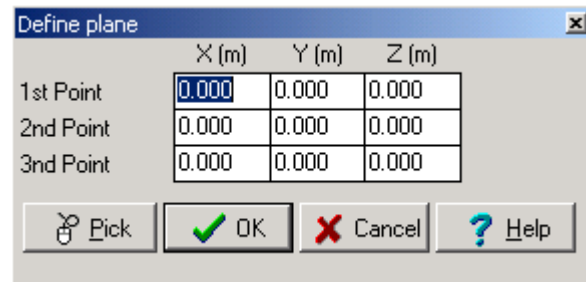

Figure 67 DEFINE PLANE dialogue box.
2. Choose Edit > Mirror or the appropriate icon . The dialogue box shown in figure 67 will appear.